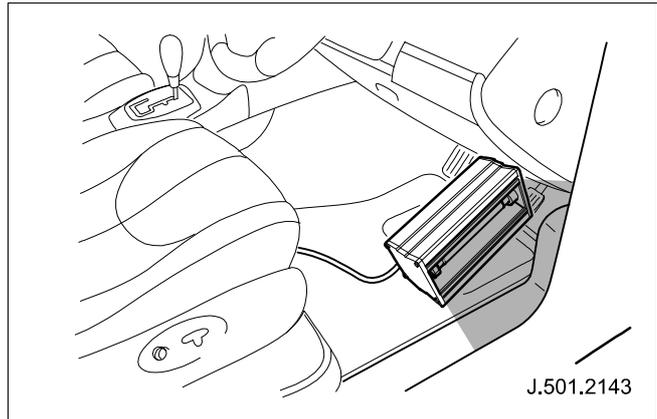

Fig. 29
- 3 Connect the UV lamp and from the interior of the vehicle illuminate the affected area. (See Fig. 29)